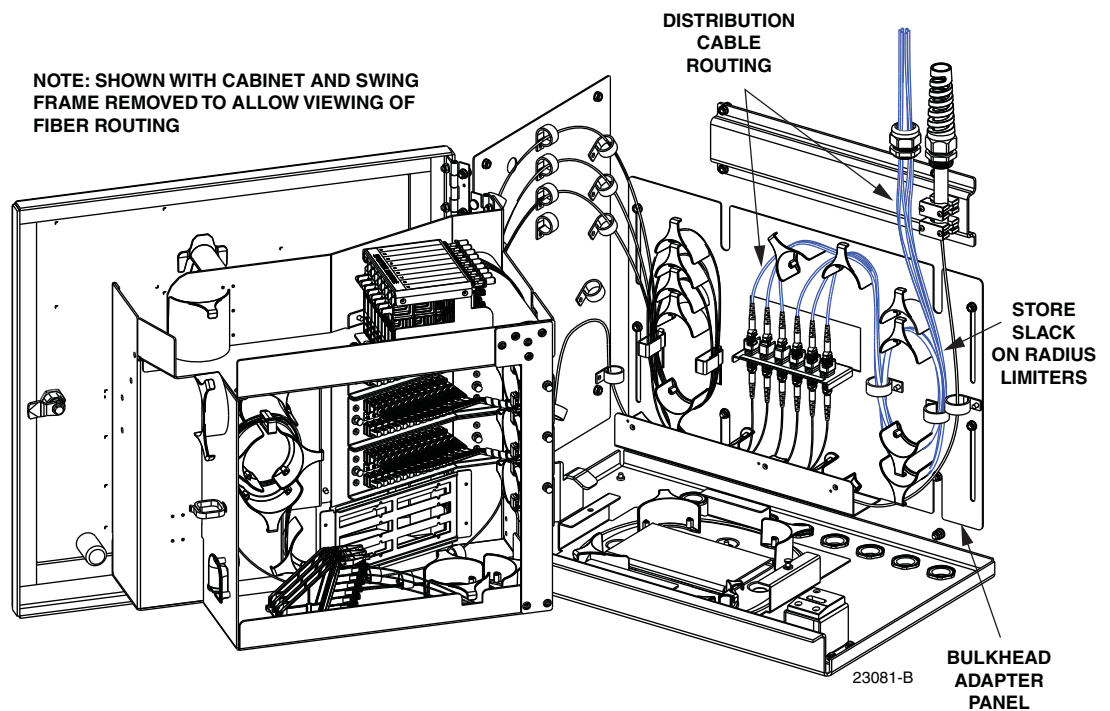

Figure 49. Routing Distribution Cables to Bulkhead Adapter Panel
11. Route each distribution cable to the appropriate adapter on the bulkhead adapter panel as shown in Figure 49.